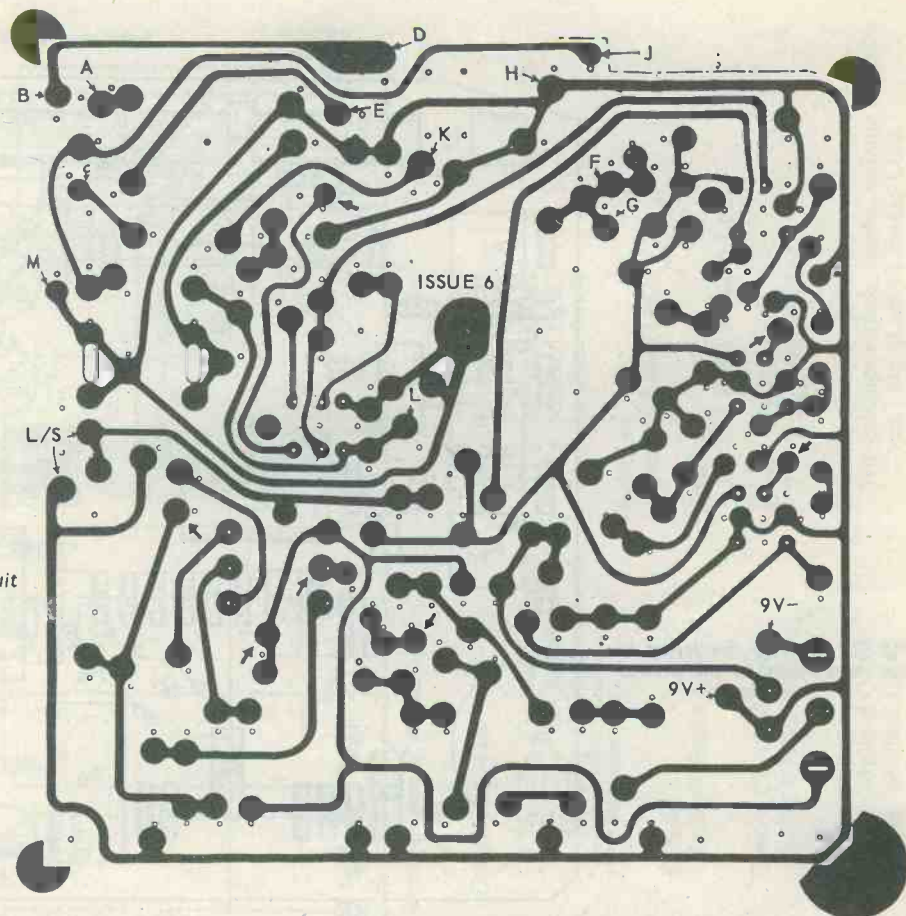

Fig. 3. The printed circuit
10. Fit the battery leads. Use 9in lengths of red and black p.v.c. insulated wire. Solder the black lead to the point marked "9V—" on the printed circuit and the red lead to the point marked "9V+" (see Fig. 3.) Pass the wires up and down through